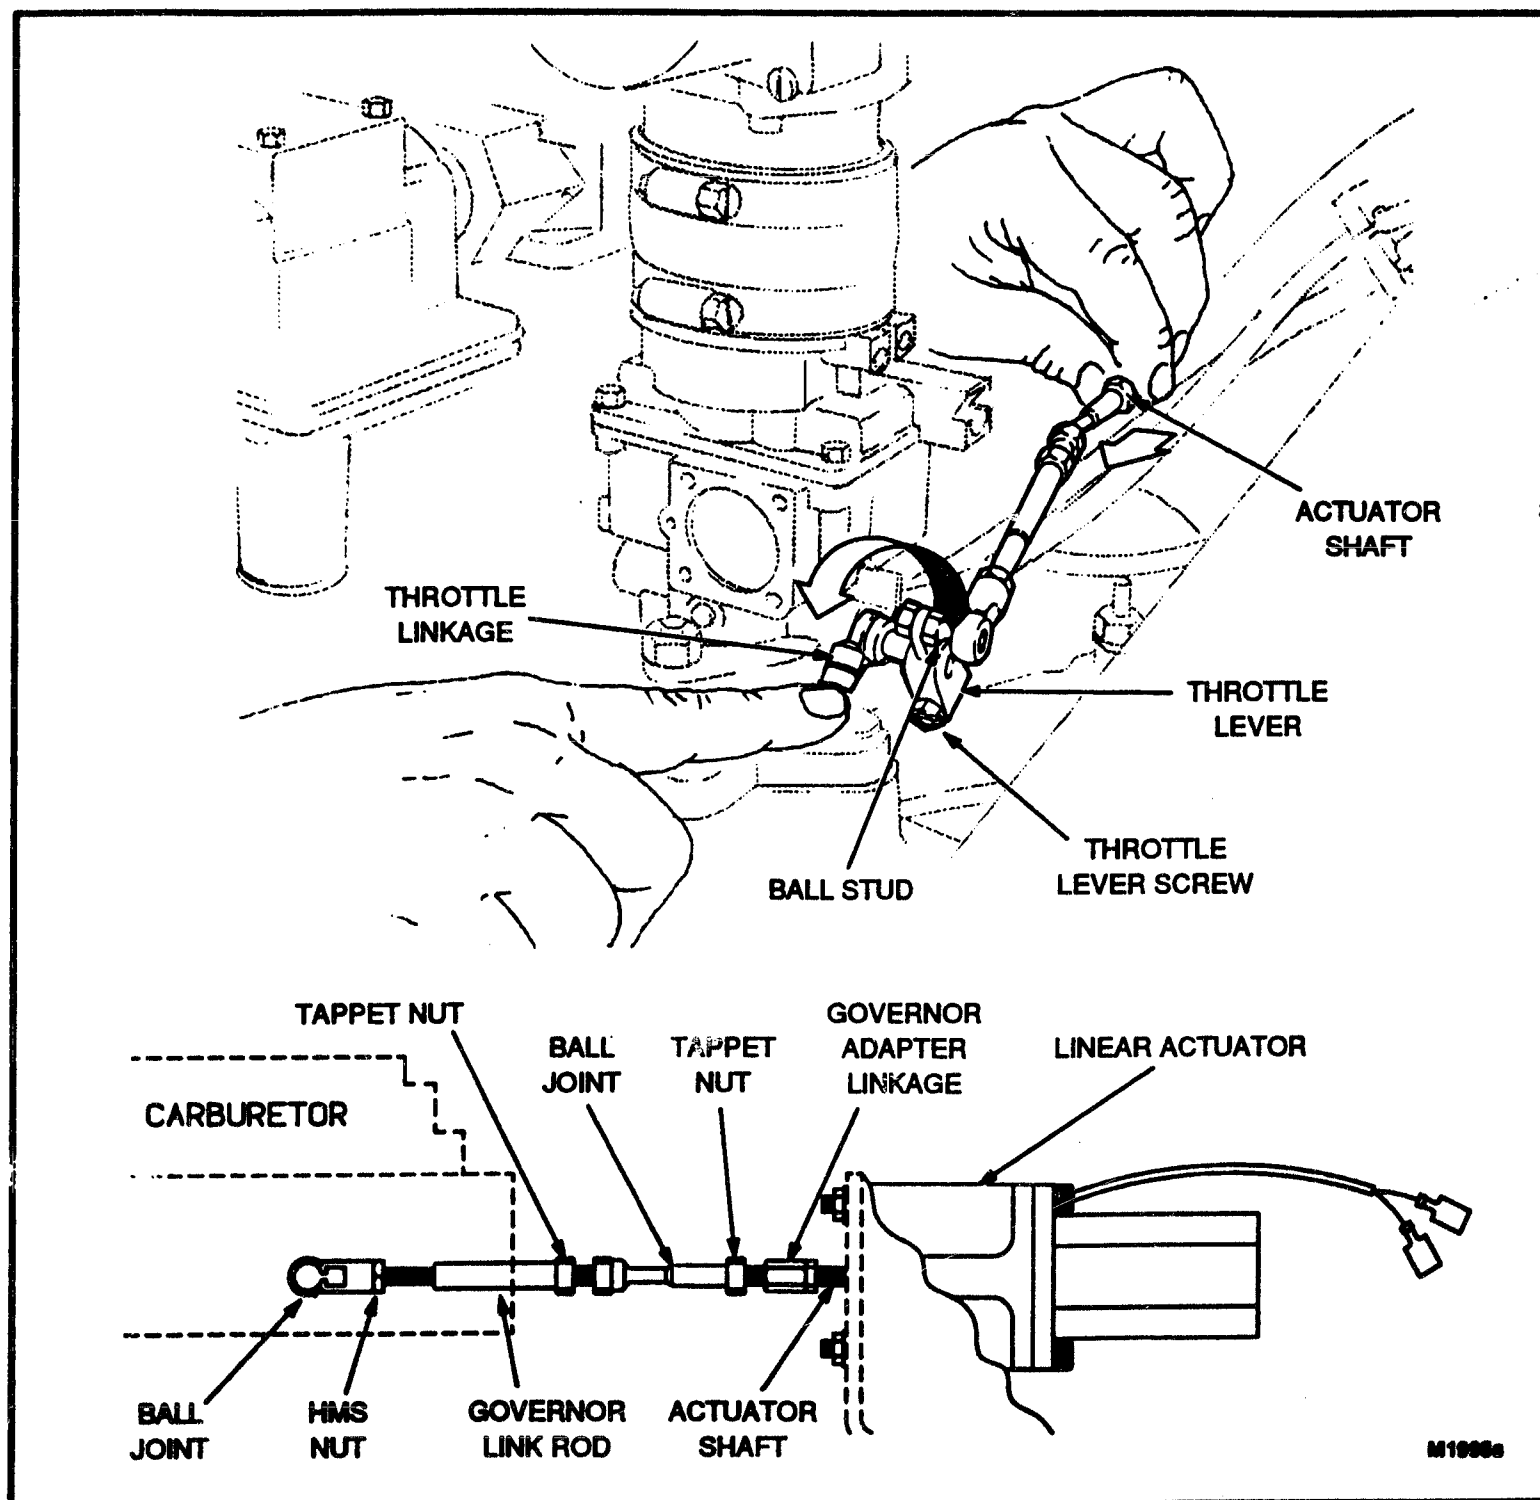

FIGURE 2. ELECTRIC GOVERNOR LINKAGE
Figure 2 illustrates the arrangement of the electric governor components and how to adjust the linkage of the electric governor. The following should be noted:
1. Assemble the governor linkage as shown in Figure 2. Thread each female component at least three to four turns onto each male component and set the lock nuts.